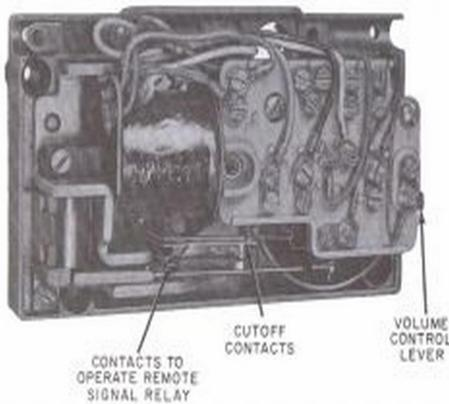

Fig. 3—E1D Ringer, Internal View
4.02 The E1D ringer is equipped with two sets of contacts (Fig. 3). One set, controlled by the clapper, operates a remote signal relay; the other, operated by the volume-control cam, cuts off remote signals. For connections, refer to section on farm interphone.